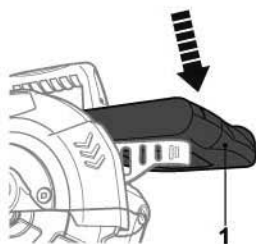

Fig. 3
1. Push the handle (1) downwards and release the locking bolt (23) from its locking position (Fig. 3, 4).